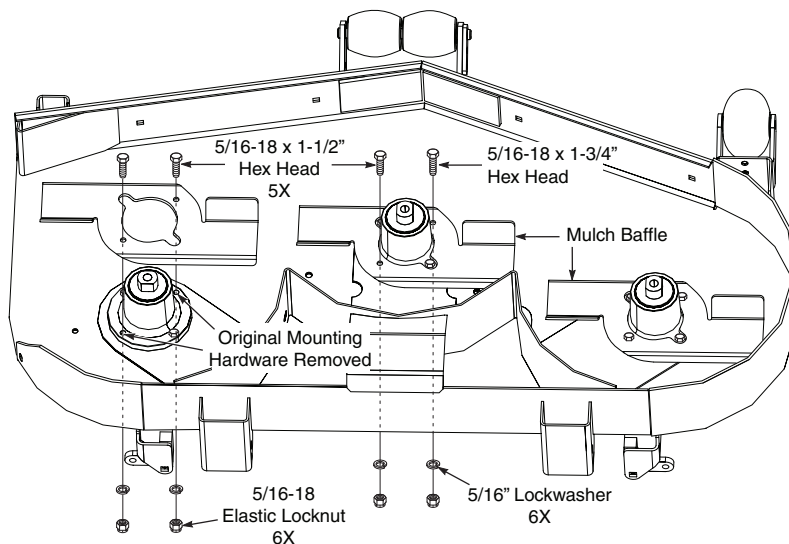

Figure 2. Hurricane Mulch Baffle Installation
5. Remove two of the spindle mounting bolts from each of the spindle flanges as indicated in Figure 2. Install the L.H. and R.H. Hurricane Mulch Baffles as shown and secure using the new hardware supplied with this kit (5/16-18 x 1-1/2" grade 8 hex head bolts, 5/16" lockwashers and 5/16-18 elastic locknuts). Install and secure the Center Hurricane Baffle with the new hardware provided (5/16-18 x 1-1/2" grade 8 hex head bolt,